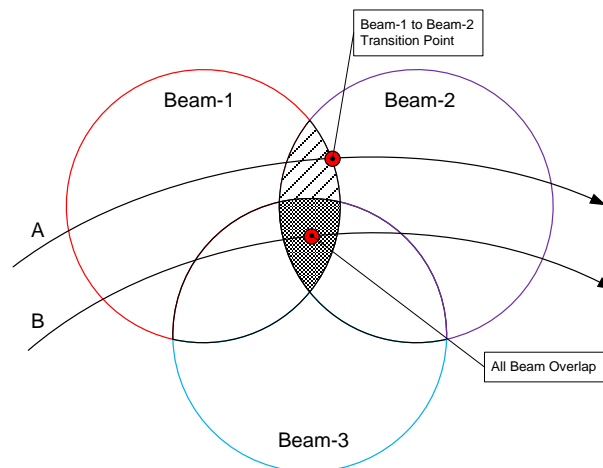

Figure 5-5 Beam Overlay Example
The example in figure 5-5 shows line (A) representing a beam-1 to beam-2 to switch and the point at which the transition takes place.